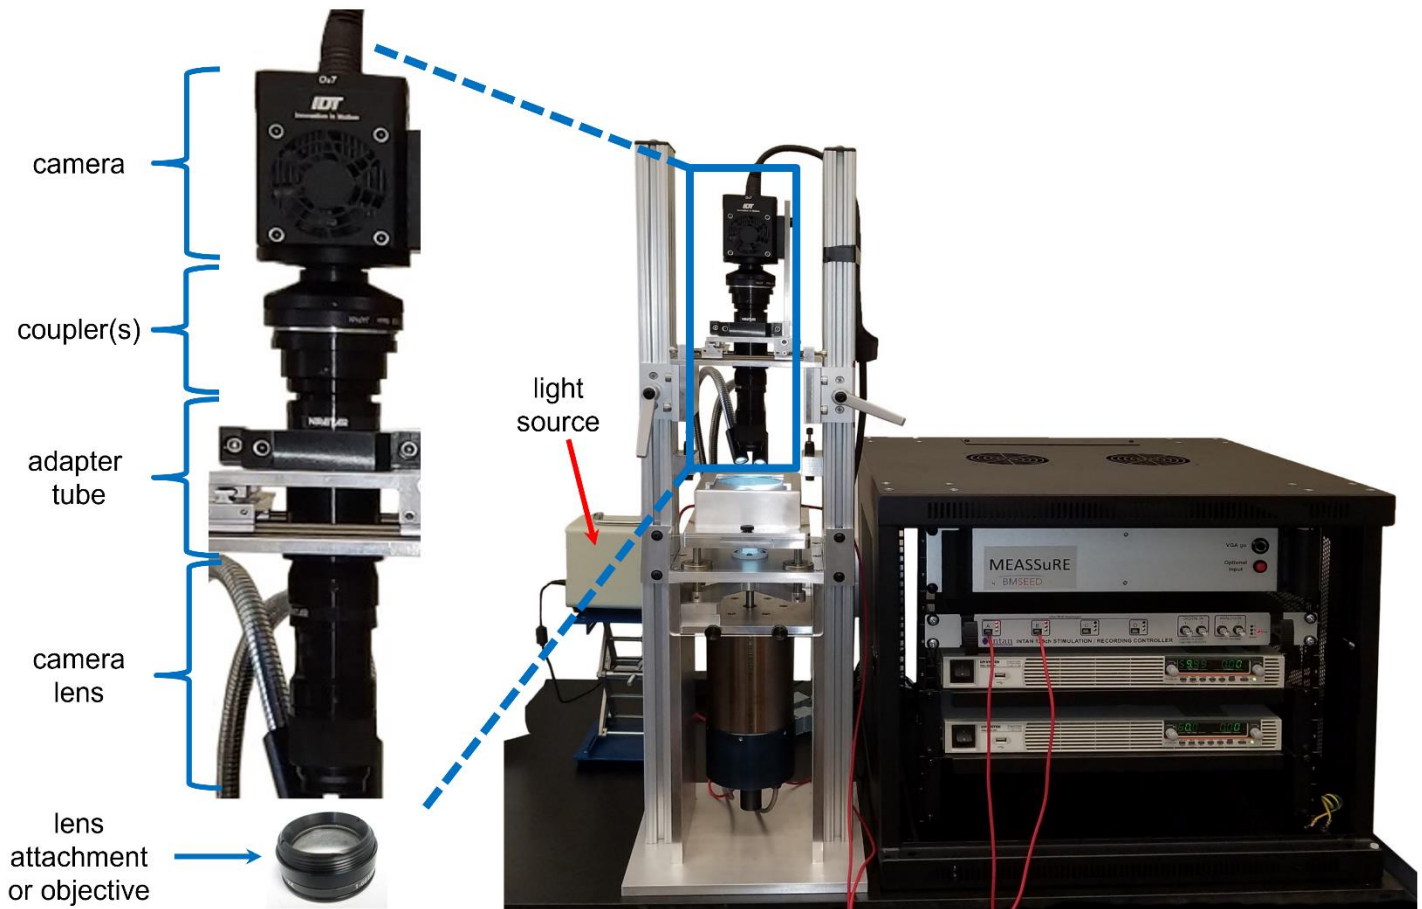

Fig. 1: Overall setup of the Imaging Module (shown here for a MEASSuRE-X system).
The Imaging Module of MEASSuRE systems is located on the top area of the MEASSuRE frame, fixed to the frame's side rails. The overall configuration, shown in **Fig. 1**, consists of the following from top to bottom: camera, speed booster (if any), coupler(s), adapter tube, lens, and any additional components or attachments. An LED light source is used to illuminate the sample.
- **Adapter tube:** The adapter tube (like the coupler) serves as the connection between the camera and lens. A clamp on the imaging stage is used on the adapter tube to fix the imaging assembly to the MEASSuRE frame (see **Fig. 1**). Depending on the target application and other hardware components, the adapter tube could have different magnifications, lengths, and mounts.